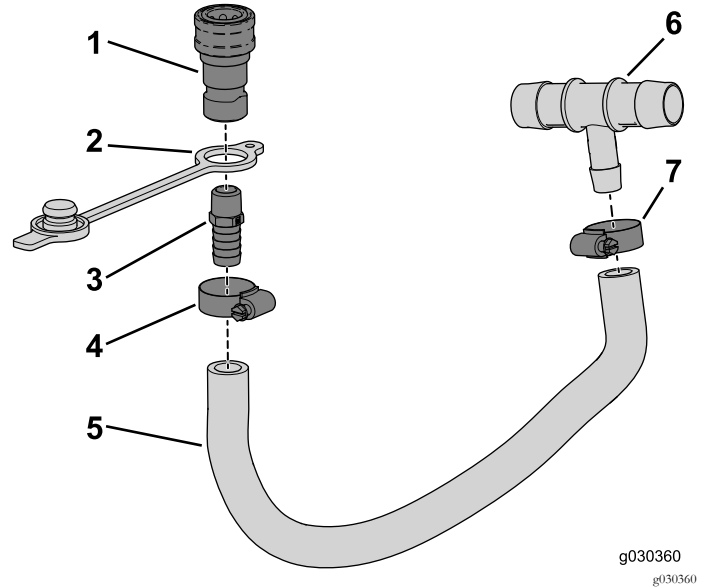

Figure 27
2. Thread the straight fitting (3/8 NPT x 5/8 barb) to the female coupler (Figure 27).
4. Slip the dust plug over the barbed end of the assembly (Figure 27).
6. Insert the barbed end of the assembly into the hose and secure it with the hose clamp (Figure 27).
7. Insert the barbed end of the tee fitting into the hose and secure it with the hose clamp (Figure 27).